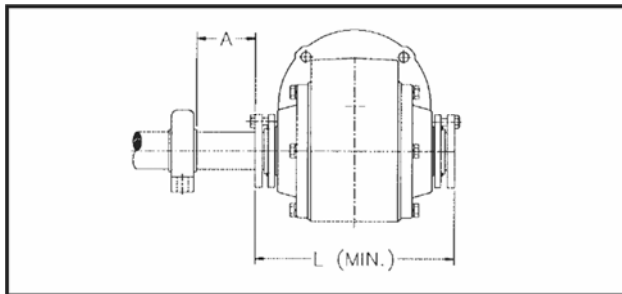

Figure 2
2. The driven shaft must extend through the full length of the reducer. The reducer should be mounted the recommended minimum distance from the shaft bearing (shown as dimension "A" in Fig. 2 and table. Dimension "A" is required for bolt clearance/jackscrew removal.)